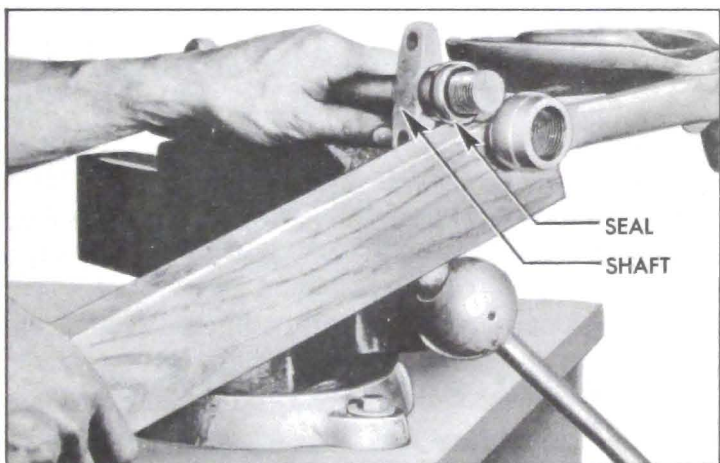

Figure 7-14—Springing Arm Over End of Shaft
5. Insert one end of shaft with the seal in place in one control arm end and force opposite end of shaft into the other control arm end. A piece of wood approximately  $11\frac{1}{4}$ "x $2\frac{1}{2}$ "x $24$ " long can be used as a pry. See figure 7-14.